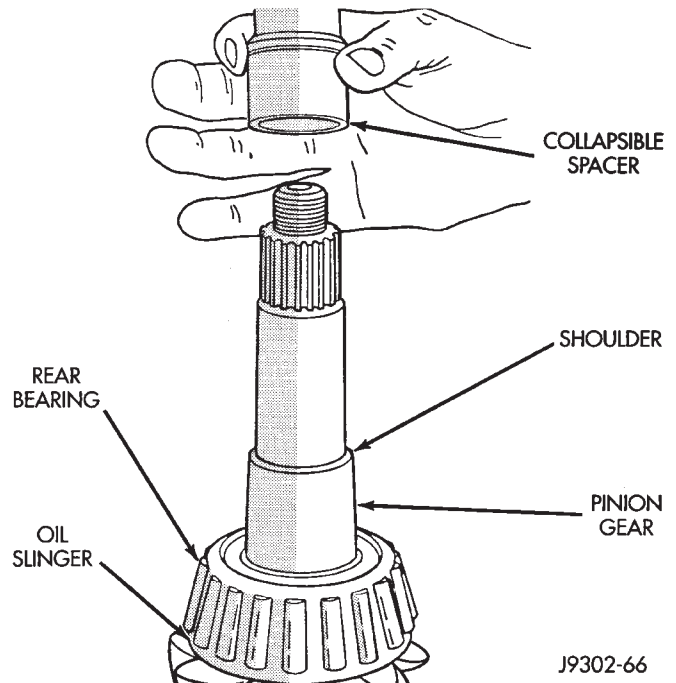

Fig. 18 Collapsible Preload Spacer
(1) Install a new collapsible preload spacer on pinion shaft (Fig. 18).
(2) If pinion gear was removed, install pinion gear in housing.
(3) Install pinion front bearing, if necessary.